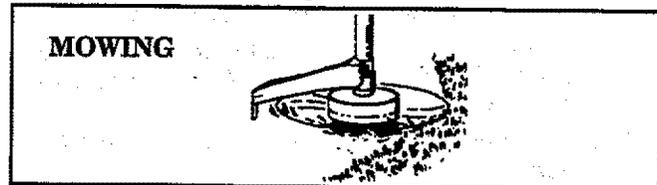

Figure 14
3. **MOWING**- Figure 14 . Your trimmer is ideal for mowing in places conventional lawn mowers cannot reach. In the mowing position, keep the line parallel to the ground. Avoid pressing the head into the ground as this can scalp the ground and damage the tool.